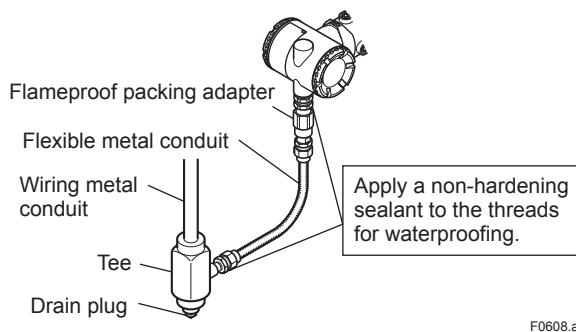

Figure 6.8 Typical Cable Wiring Using Flameproof Packing Adapter
- Wiring cable through flameproof packing adapter for only TIIS flameproof type (see Figure 6.8).